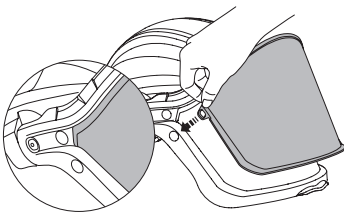
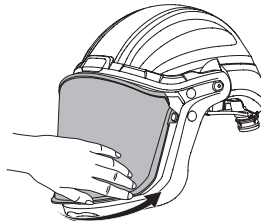
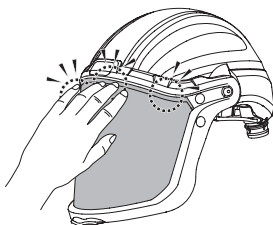

fig.8a
fig.8b
fig.8d
**To install visor:** Put the one side of the visor into the slot (See fig.8a) and then put the other side of the visor into the slot (See fig.8b / 8c). Press the center of the top edge of the visor inward from the outer side until you hear a "click" sound to fix the visor (See fig.8d). Place the buckles in the position shown and slide down the latches firmly until you hear a "click" sound (See fig.8e).